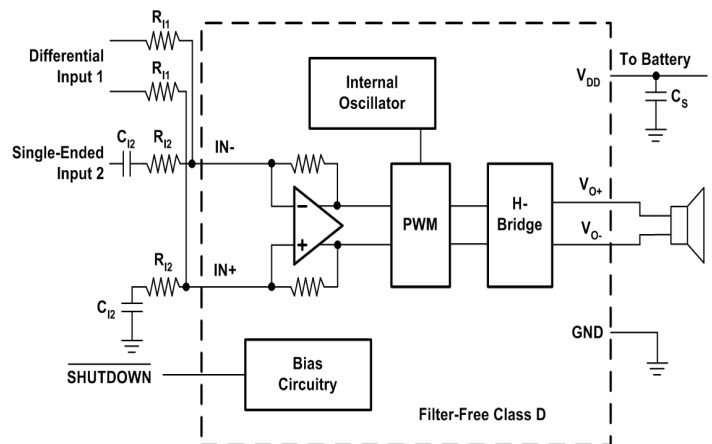

Figure 27. Application Schematic With EUA2005 Summing Input and Single-Ended Input Signals
Figure 27 shows how to sum a differential input signal and a single-ended input signal. Ground noise can couple in through IN+ with this method. It is better to use differential inputs. The corner frequency of the single-ended input is set by C_{I2} , shown in equation (8). To assure that each input is balanced, the single-ended input must be driven by a low-impedance source even if the input is not in use